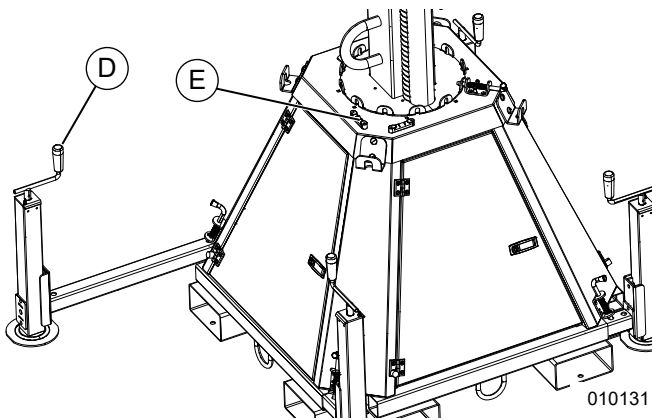

Figure 3-2. Setting up Stabilizers (2 of 2)
- See **Figure 3-2**. Rotate each jack handle (D) clockwise to start leveling the unit, referencing spirit level (E). Adjust all four jacks by rotating their handles clockwise until the bottom of the unit no longer touches the ground.